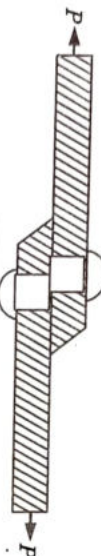

Fig. 1.1.2.
1. The stress induced in a body, when subjected to two equal and opposite forces which are acting tangentially across the resisting section as a result of which the body tends to shear off across the section, is known as shear stress (Fig. 1.1.2).